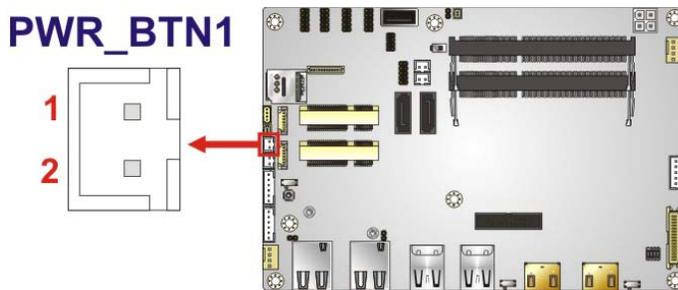

Figure 4-17: Power Button Connector Location
- CN Location: See **Figure 4-17**